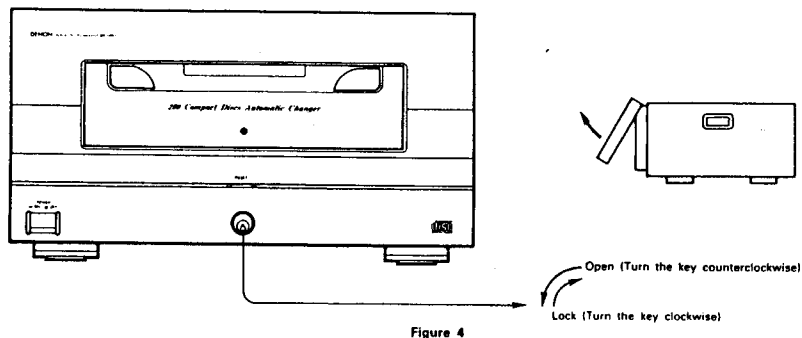

Figure 4
2) To remove the Front door (Refer to Figure 4)